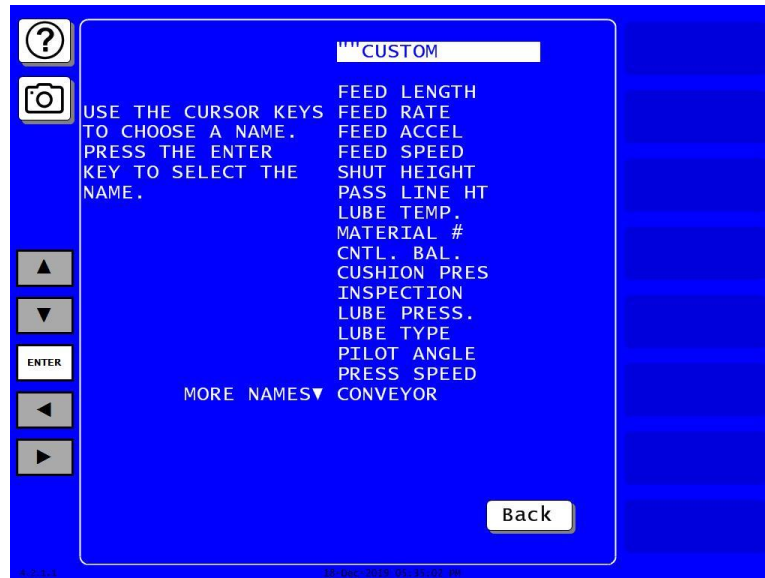

Figure 4-18. Tool Information Name Screen
2. Highlight the NAME 1 item, and press ENTER. The Tool Information Name screen, Figure 4-18, displays.